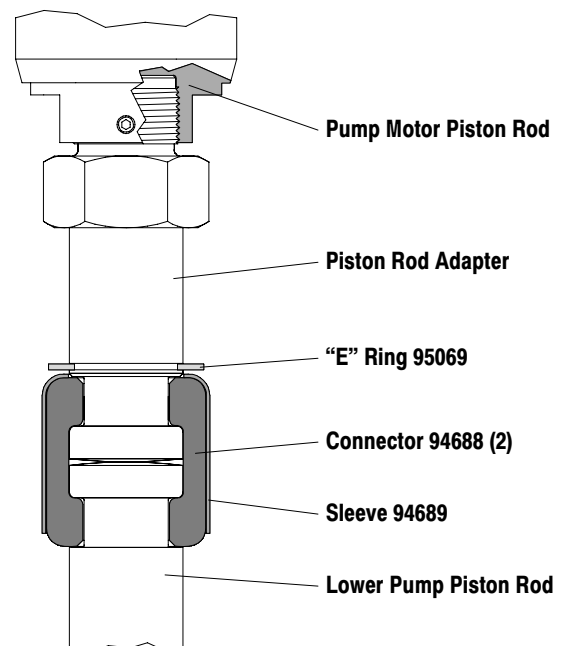

Figure 2
- Using e-ring pliers, slide the “e” ring up far enough to allow the sleeve to move upward and release the two connectors (figure 2).